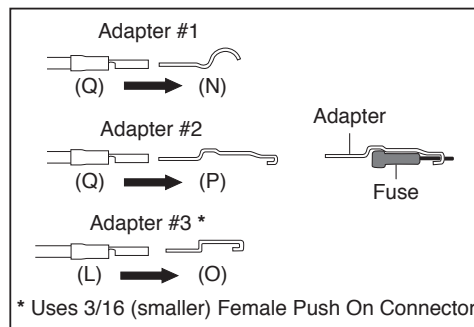

fig. 15
- c. Connection to the fuse terminal will depend on what type of fuse your vehicle uses. If your vehicle uses the barrel type fuse, use adapter #1. If you have the standard spade type fuses, use adapter #2. Many late model vehicles use a smaller spade type fuse which requires adapter #3 (fig. 15). If you use adapter #1 or #2 you will need to crimp on a 1/4” (14-16GA) female connector supplied in kit. If you use adapter #3 you will need to crimp a on 3/16” (14-16GA) female connector supplied in kit.